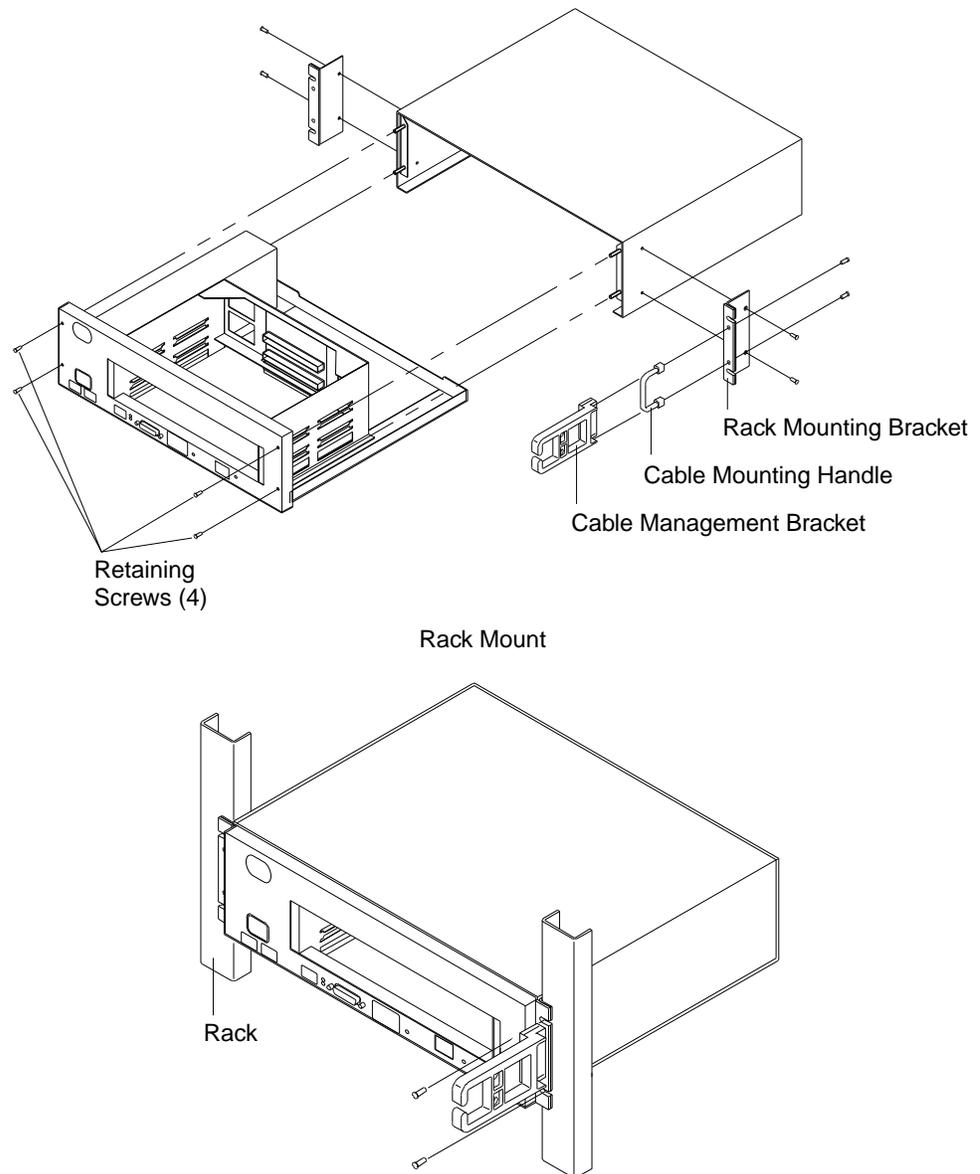

Figure 3-7. Placing the 8229 in a Rack
2. Attach the rack-mounting brackets using the four short screws. See Figure 3-7 on page 3-8.
4. Using the two long screws, attach the cable mounting handle to the cable mounting bracket on that side of the 8229. See Figure 3-7 on page 3-8.
5. Attach the cable management bracket to the cable mounting handle by slipping the bracket over the handle. Push it firmly, so that it snaps into place. See Figure 3-7 on page 3-8.
- b. Remove the four retaining screws on the front of the 8229. See Figure 3-7 on page 3-8.
9. If you have removed the chassis (the inner power supply and planar board combination), slide it back into the cover and replace the four retaining screws, which you removed earlier. See Figure 3-7 on page 3-8.